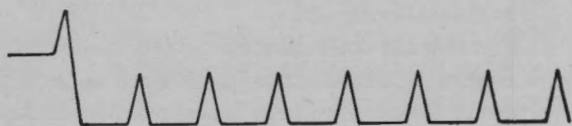

Figure 4 SF-3. Pattern for calibrating 2,000-yard range on 16,000-yard scale.
1. Throw calibrate-operate (14) toggle on the receiver-indicator unit to CALIBRATE position.
2. Turn PPI (plan position indicator) intensity control (13) located near the right-hand indicator down to secure PPI during calibration. This prevents burning of its florescent screen during a prolonged period of calibration.
3. Adjust intensity of the "A" scope trace with the "A" scope intensity control (6), located under the left-hand indicator. Do not make it unnecessarily bright.
5. Set the 16,000-48,000-yard range selector switch (19), located on the lower left side of the center to the 16,000-yard scale.
6. Set range dial (2), upper center, carefully to 1.75 on the *bottom* scale (1,750 yards).
7. Adjust 16,000-yard zero set (8), located on the lower left side of the range knob, with a screwdriver until the trace looks like figure 4 SF-3. That is, until the first range mark is on the edge of the step as illustrated. The right side of the first range mark, makes an almost straight line from its peak to the bottom of the step.